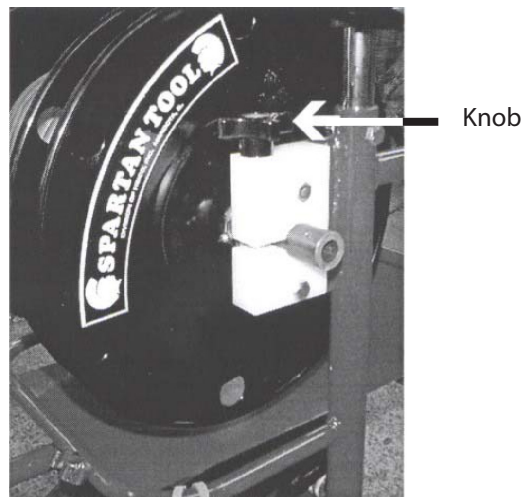

Fig. 3
3. Release the jet hose from the reel by turning the plastic knob on the side of the reel support frame counterclockwise (left). (see Fig. 3.)